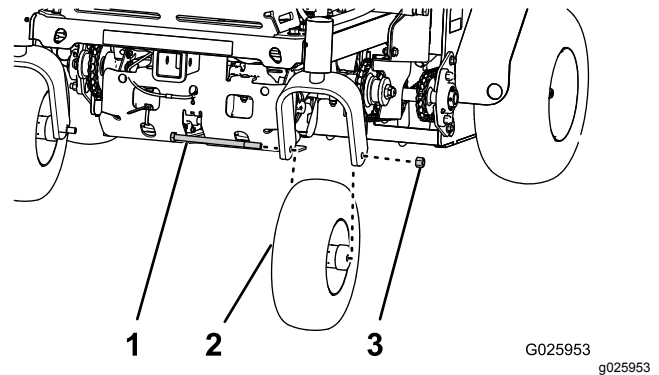

Figure 33
3. Remove the wheel nut and bolt, and remove the caster-wheel assembly from the fork (Figure 33).
- Align the hole in the axle of the caster-wheel assembly between the holes in the fork of the caster (Figure 33).
- Secure the wheel assembly to the fork with the wheel nut and bolt (Figure 33) that you removed in step 3 of Removing the Caster-Wheel Assembly (page 34).